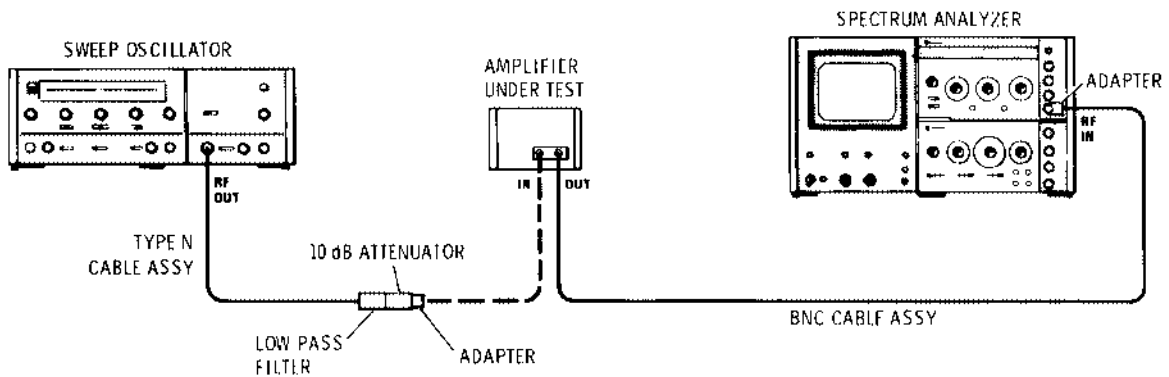

Figure 7 **Distortion and Reverse Isolation Test Setup**
- 1 To check distortion, connect the equipment as shown in Figure 7. Set the sweep oscillator for a fixed, 400 MHz CW signal.